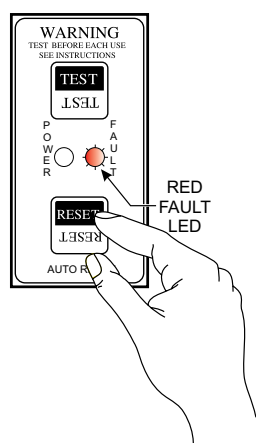

Figure 24. Red Fault Status LED (Flashing)
- If the main breaker is not turned on within 5 seconds the **RED** fault led on the GFCI sensing module will begin flashing (Figure 24). If this occurs, press the **reset button** on the GFCI sensing module.